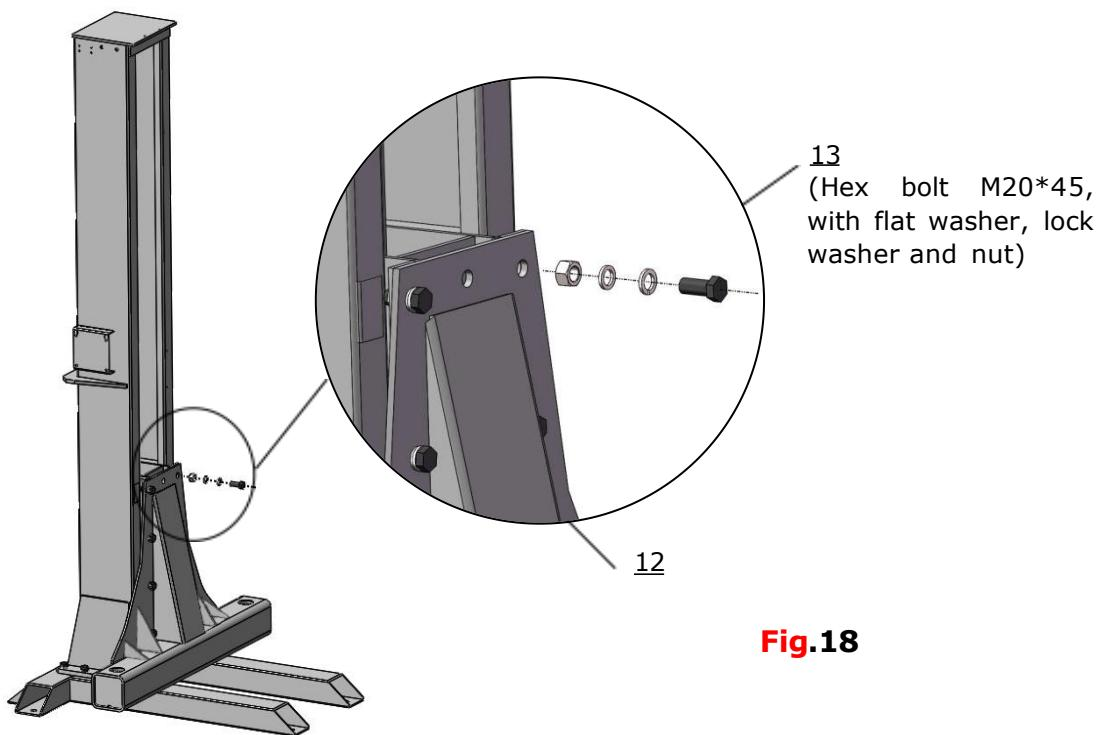

Fig.18
1. Install the platform connecting device to carriage.(See Fig.18)